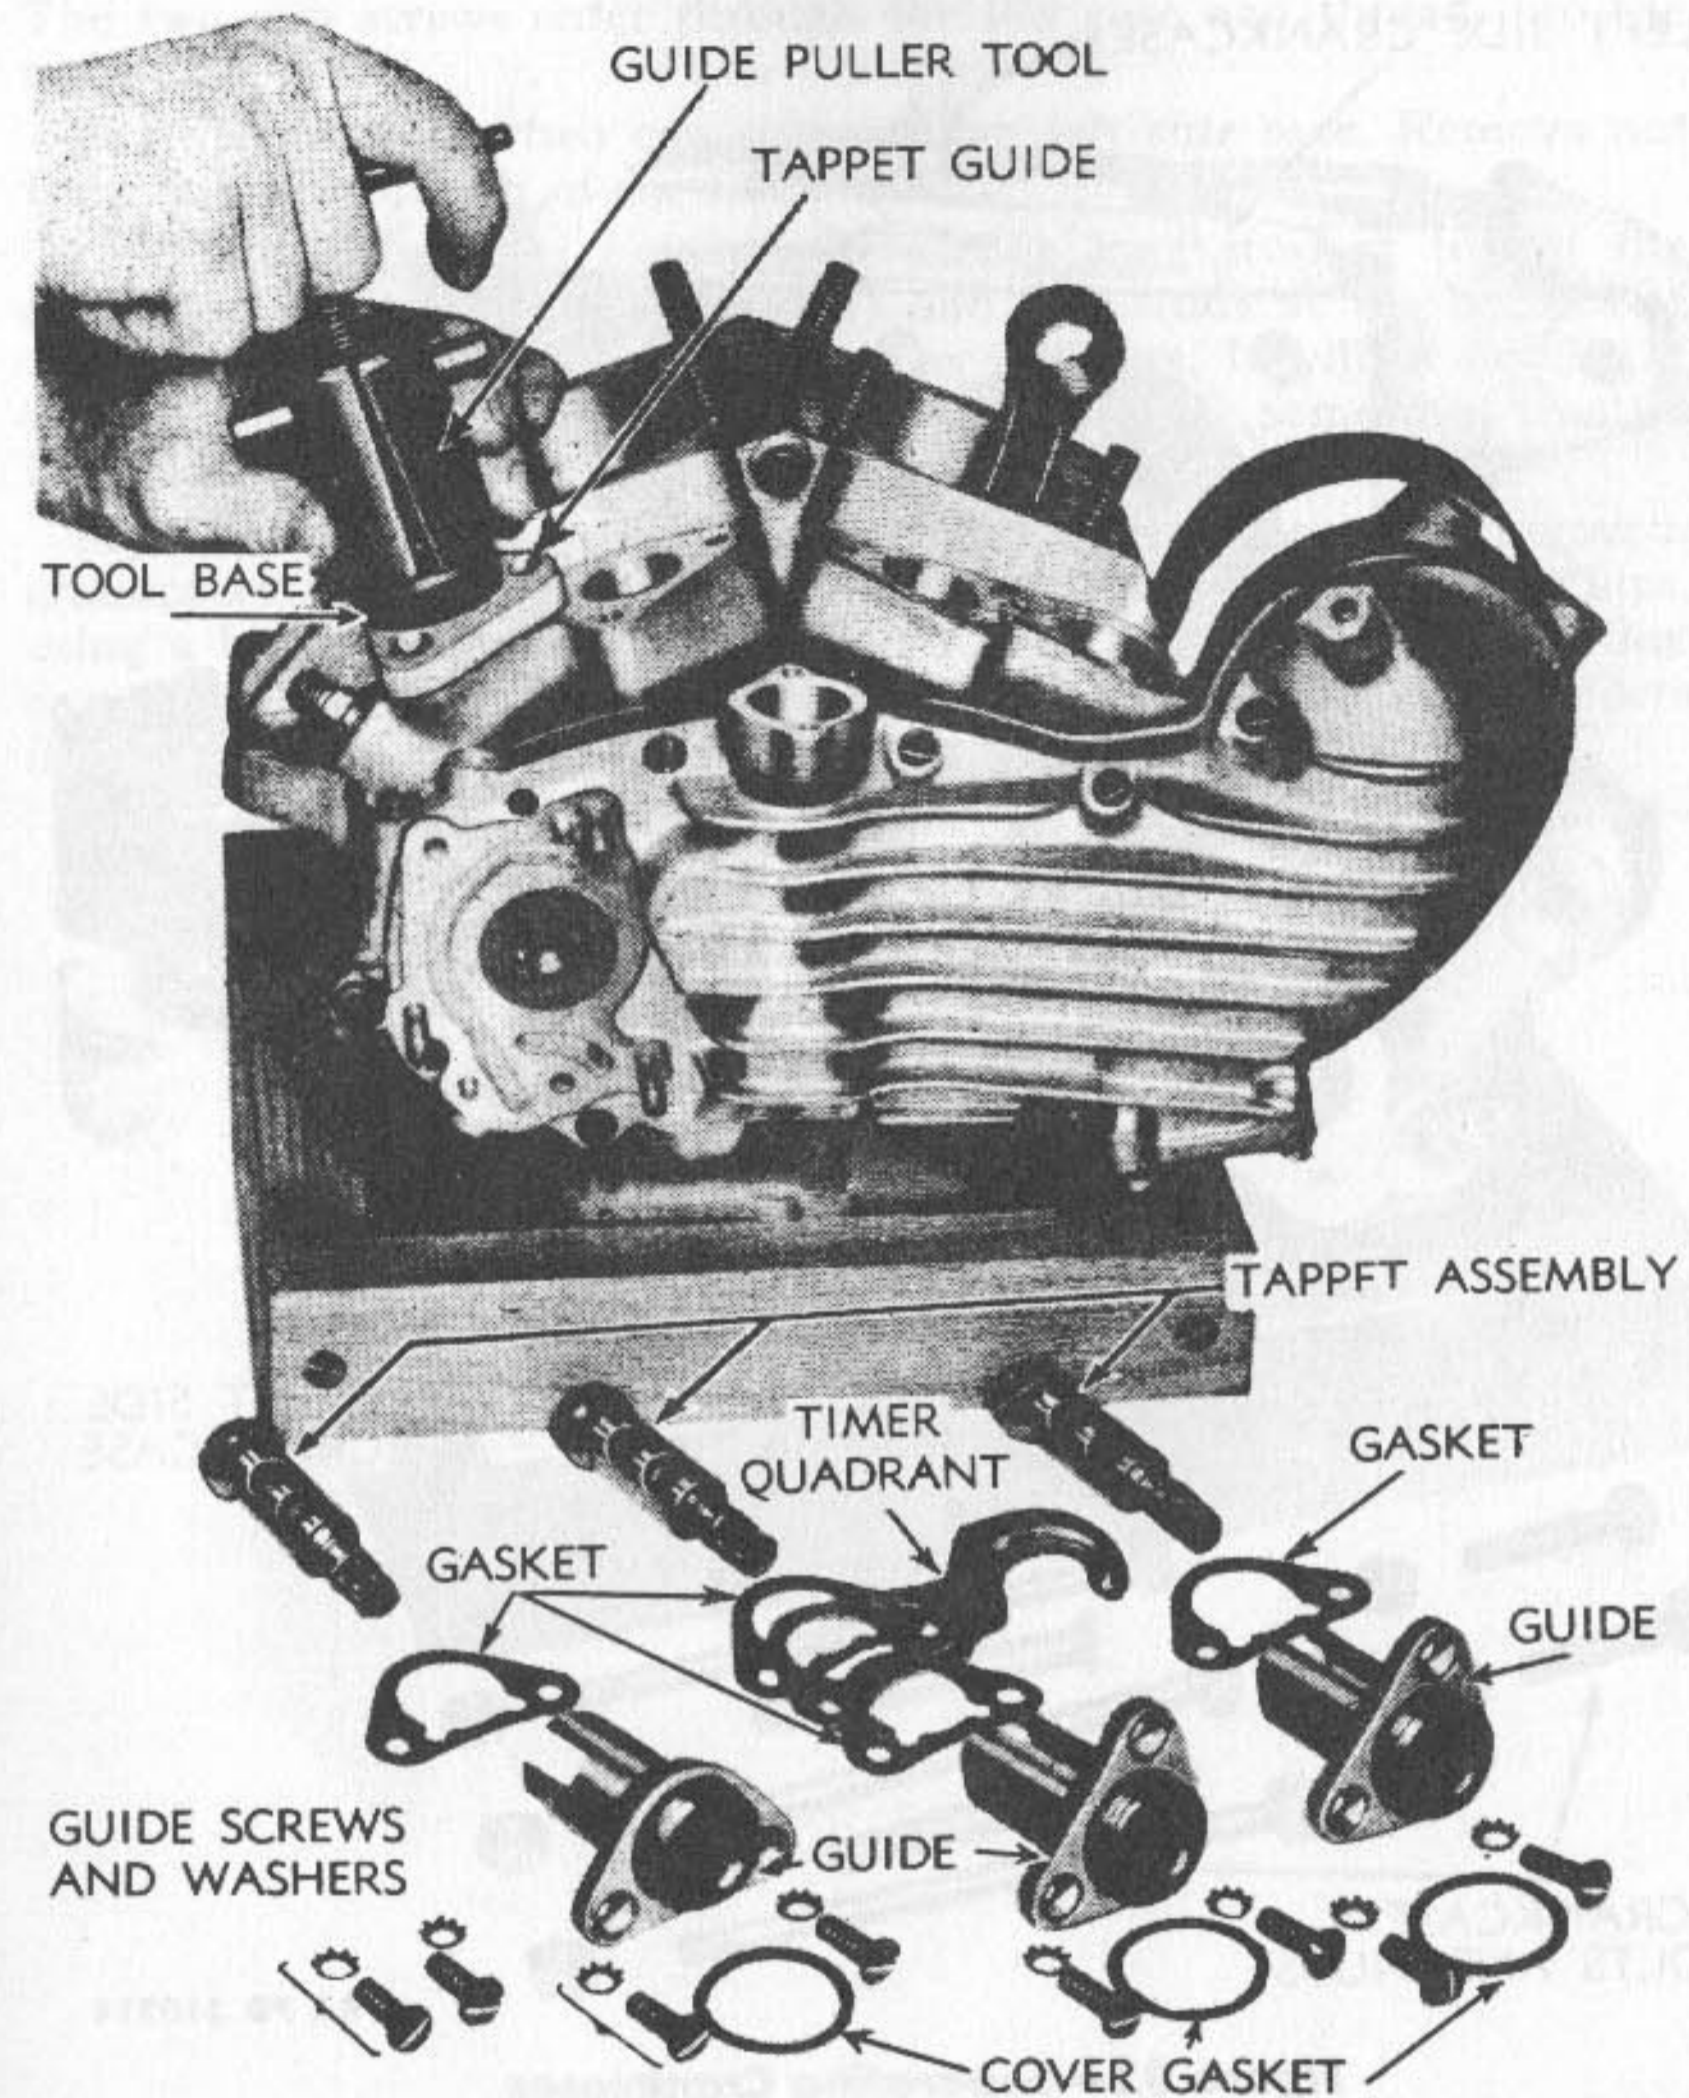

Figure 31—Removing Tappet Guides with Puller (41-P-2956)
(8) REMOVE VALVE TAPPETS AND VALVE TAPPET GUIDES (fig. 31). Tappet guides are long-life members that seldom require replacement.